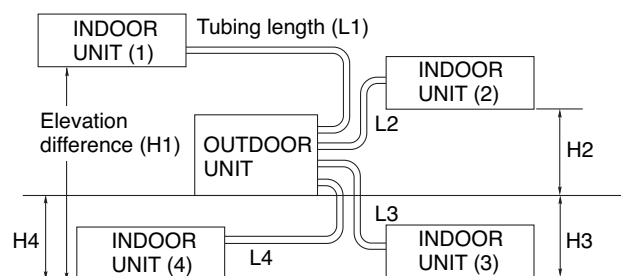

Fig. 2
- install the unit within the maximum elevation difference (H1, H2, H3, H4) above or below the outdoor unit and within a total tubing length ( $L1+L2+L3$ ,  $L1+L2+L3+L4$ ) from the outdoor unit as detailed in Table 3 and Fig. 2.